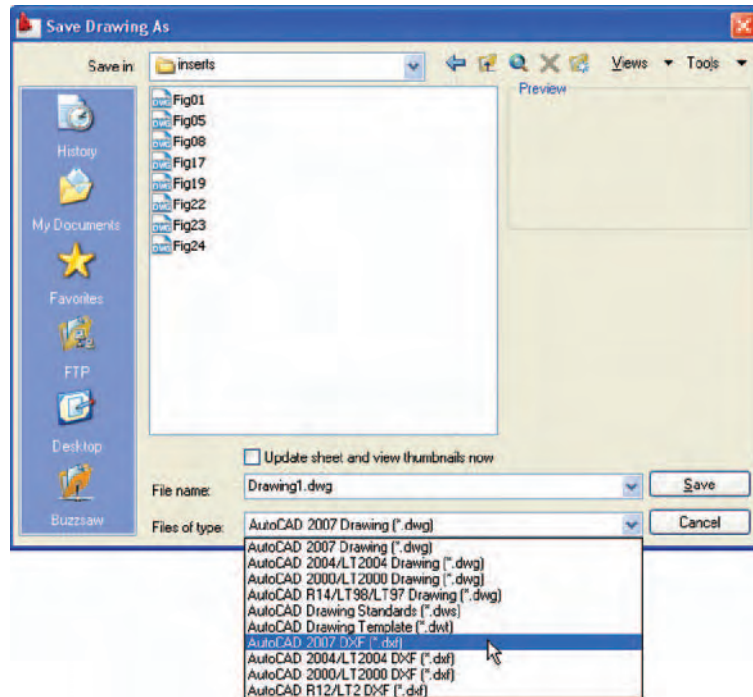

Fig. 10.8 The **Save Drawing As** dialog set up to save drawings in **DXF** format
Example – DXF file (Fig. 10.8)
3. Enter a suitable file name. In this example this is **Fig07**. The extension **.dxf** is automatically included when the **Save** button of the dialog is clicked (Fig. 10.8).